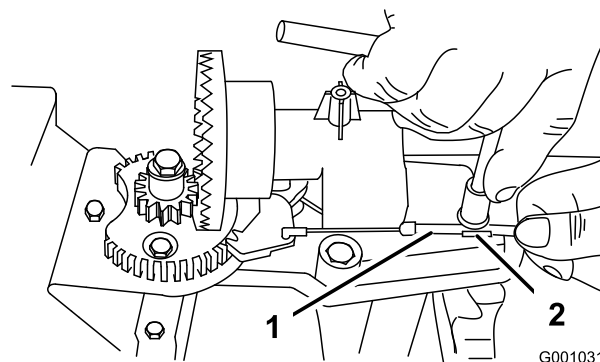
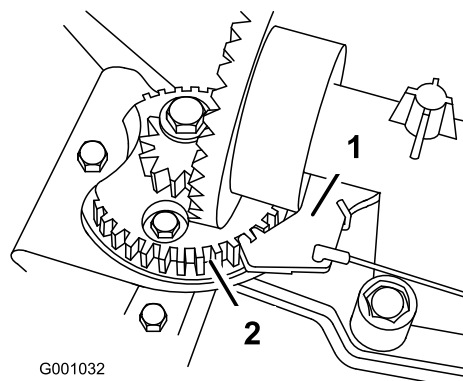

Figure 60
Figure 61
2. Loosen the bolt on the cable clamp (Figure 60).
3. Grasp the cable conduit and move it toward the front of the machine until the discharge chute latch fully engages the gear teeth (Figure 60 and Figure 61).
Note: The latch is spring loaded and will naturally move into the teeth of the gear (Figure 61).